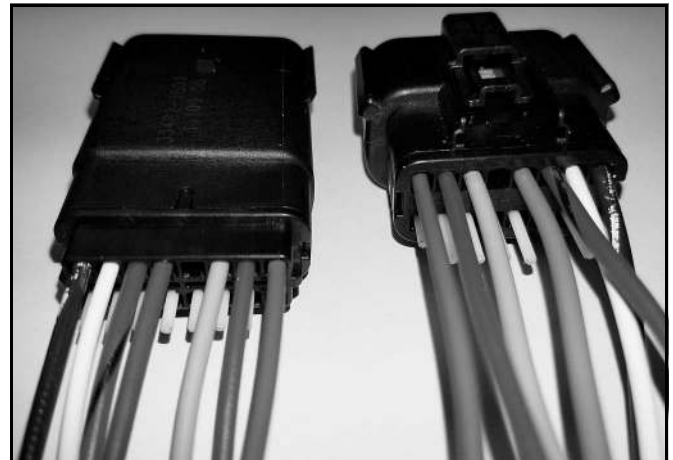

Figure 2
- B. Install the loose wires from the Main EIS Adapter harness (96116724) into the empty pin locations (pin 4) of the Headlight adapters. (See Figure 2.)